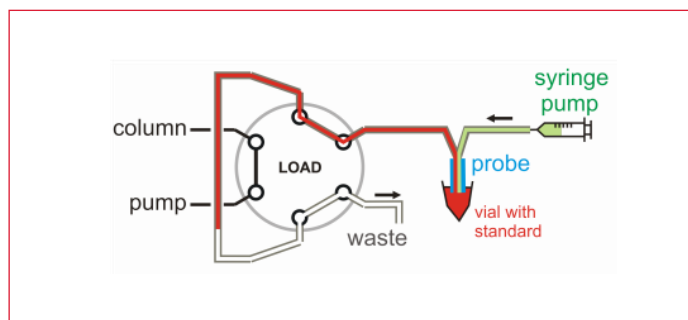

Figure 9: Schematic representation of the 'probing' method in an on-line microdialysis set-up
- Probing** - In this set-up the glass syringe is filled with perfusion fluid, a probe is connected to the flow path and its tip immersed in a standard solution (Fig. 9). The measured responses in a stabilized microdialysis set-up give values that take into account the loop filling efficiency as well as the probe efficiency. Actual probe efficiency can be calculated when comparing with the values as obtained from the insertion by syringe pump method (see Fig. 10 for an example).